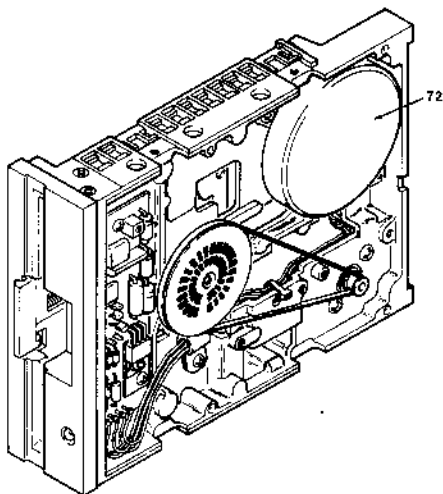
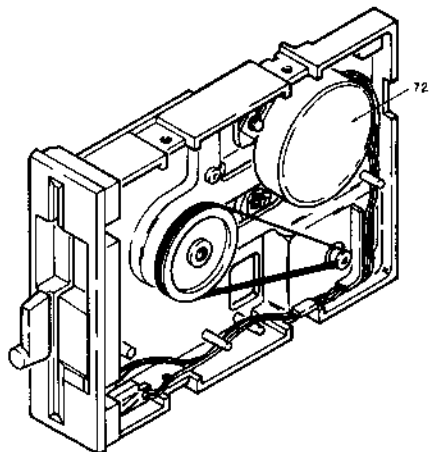

Fig. 3-15. Head alignment, Models 1540 and 1541.
Fig. 3-16. Head alignment, Model 1542.
12. Loosen but do not remove the two screws that secure the stepping motor (Item 72). (See Fig. 3-15 for Models 1540 and 1541 or Fig. 3-16 for Model 1542.)